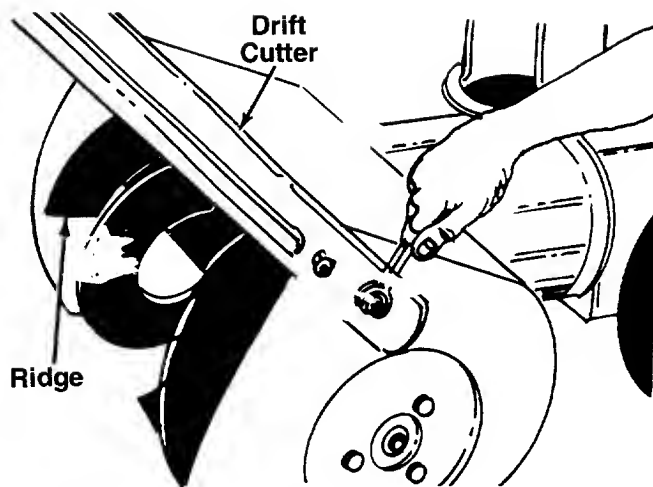

FIGURE 18.
1. If your unit is equipped with optional drift cutters, use a 1/2" wrench to remove the carriage bolts, lock washers and hex nuts holding the drift cutters to the auger housing. See figure 18. Turn and place the drift cutters in position (ridges on drift cutters go toward the outside of the unit). Secure with the hardware just removed, carriage bolts (W) (heads of bolts are to the inside of the housing), lock washers (X) and hex nuts (Y). Tighten securely.